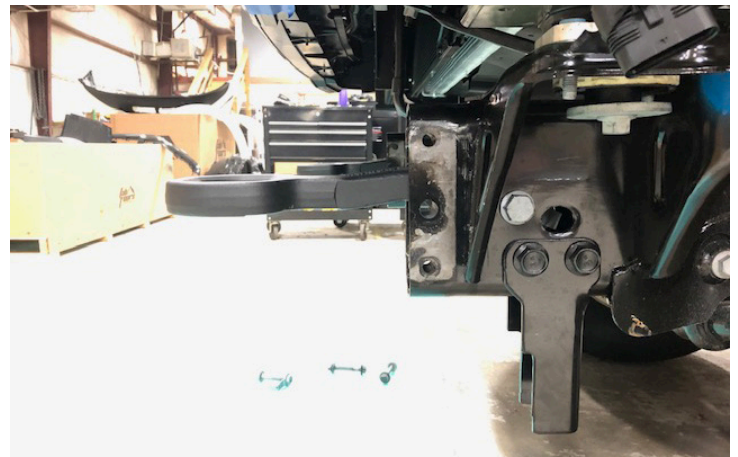

Figure 9
9. Using a 24mm socket wrench, remove the factory bolt and nut tab from the frame rail to remove the factory tow hook. (Figure 9)